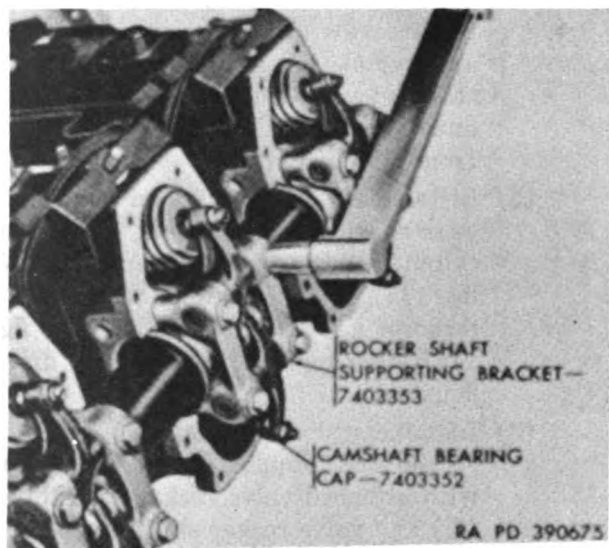

Figure 174. Torquing valve rocker shaft supporting bracket and bearing cap bolts.
(3) Install camshaft bearing caps (Q) and rocker shaft supporting brackets (V), with attached valve rocker assemblies (U) and valve rocker shaft assemblies (T), on cylinder heads over camshaft.
(4) Secure bearing caps and supporting brackets to cylinder heads with $\frac{3}{8} \times$
2 $\frac{13}{16}$ hex-head bolts (S) and 2 $\frac{5}{16}$ id, 1 $\frac{3}{16}$ od, $\frac{1}{8}$ thick flat washers (R). Torque bolts to 175 pound-inches as shown in figure 174. Secure bolts with locking wire.